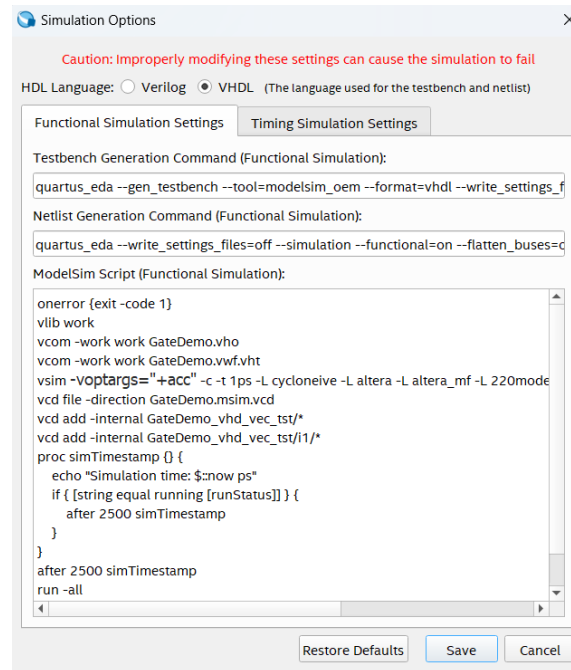
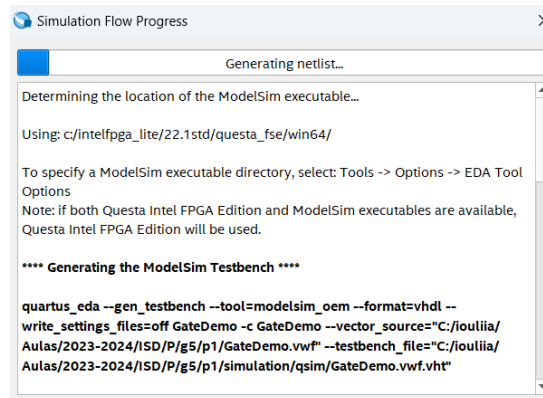
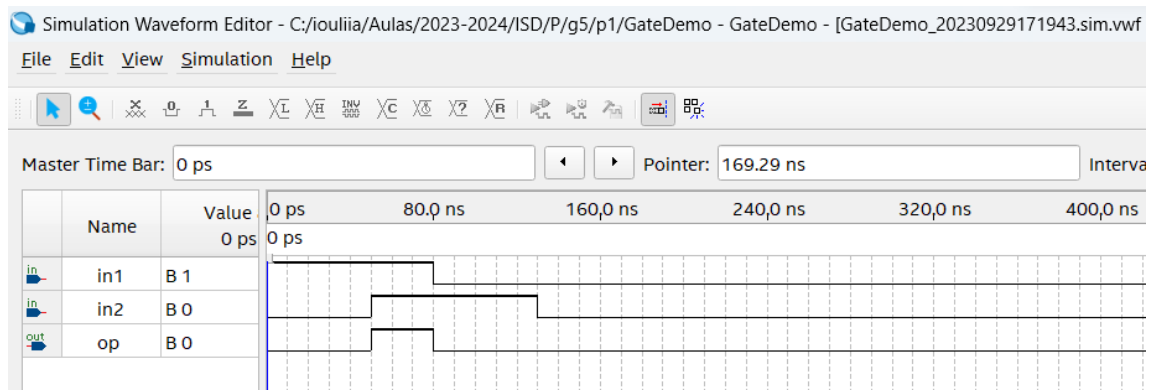

Figure 22 – Modifying the simulation options.
Figure 23 - Circuit simulation compilation.
Figure 24 - Simulator window with output signal waveform as a function of the specified input vectors and circuit behaviour.
14. Access the Simulation Settings through the Simulation menu (Simulation→Simulation Settings). Change the “HDL Language” to VHDL. Then delete text `-novopt` from the `vsim` command and insert there `-voptargs="+acc"` (Figure 22). Save the file and run the simulation through the “Simulation→Run Functional Simulation” menu, which should open a window similar to Figure 23. After the simulation you should get the value of the logic gate output corresponding to the inputs you specified (Figure 24).